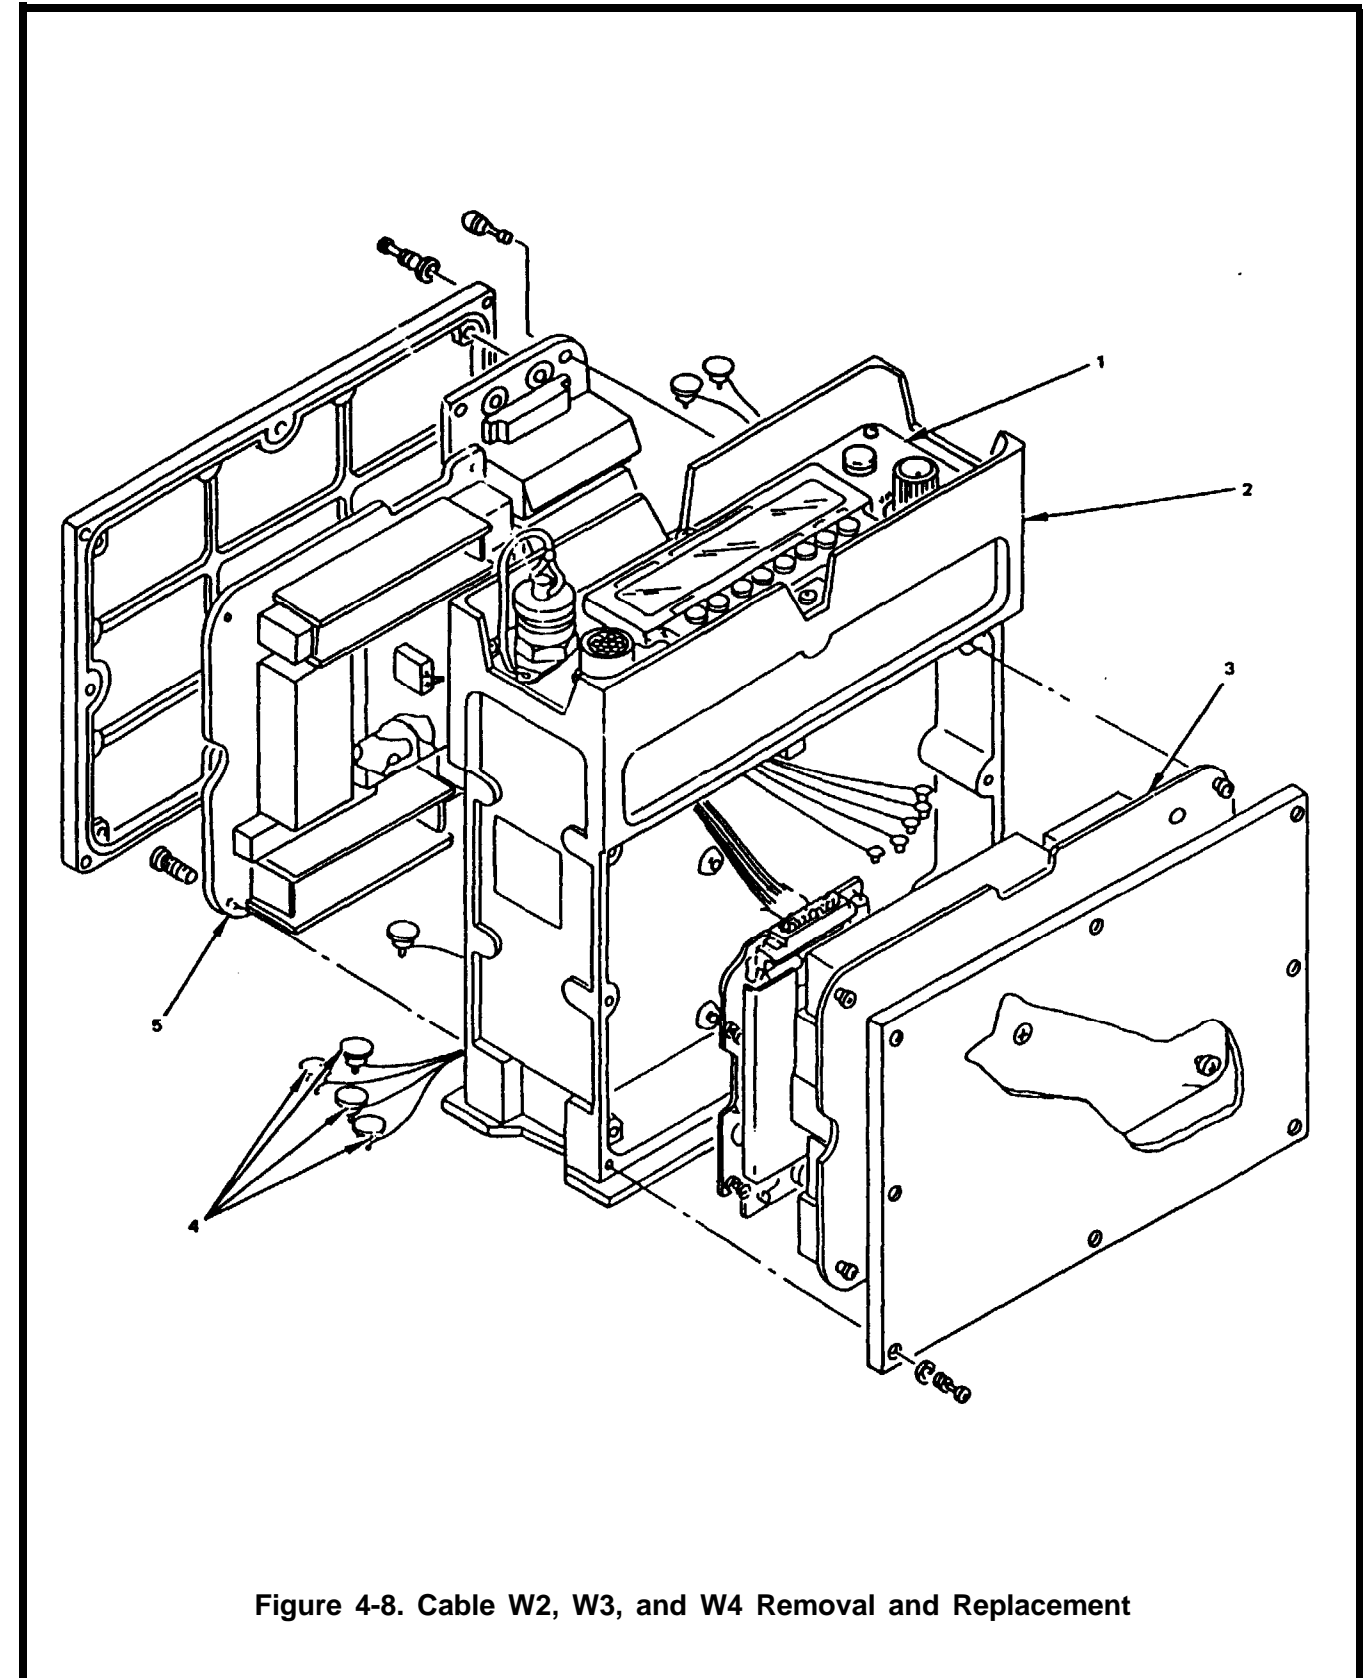

Figure 4-8. Cable W2, W3, and W4 Removal and Replacement
**CABLE W3 REMOVAL AND REPLACEMENT, fig 4-8**